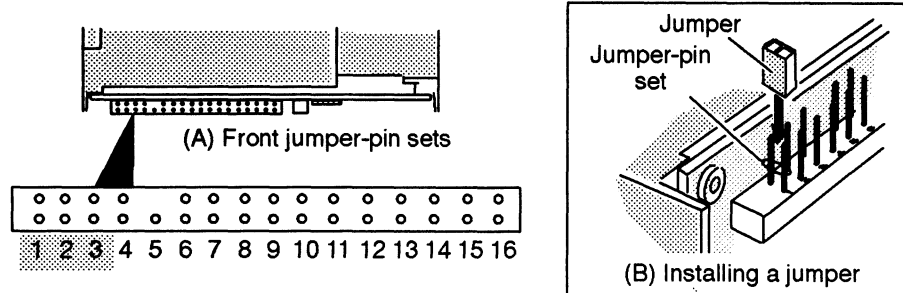

Figure 3 SCSI ID jumper settings, (A) The location of the jumper-pin sets at the front of the Model 61005-D, 61006-D, or 61007-D drive, (B) Installing a jumper
2. Once you have chosen the correct SCSI ID number, install the jumpers for that number according to the information in Figure 3.
For example, if you choose SCSI ID 1, install a jumper across front jumper-pin set 4 as indicated in the table of Figure 3 by the word IN. Do not install jumpers across front jumper-pin sets 2 and 3 as indicated by the word OUT. Also, do not install a jumper across front jumper-pin set 1. This pin set is not used for narrow differential drive applications.